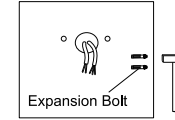

Figure 17
Step 2: Knock the expansion bolts into the wall(Figure 17);